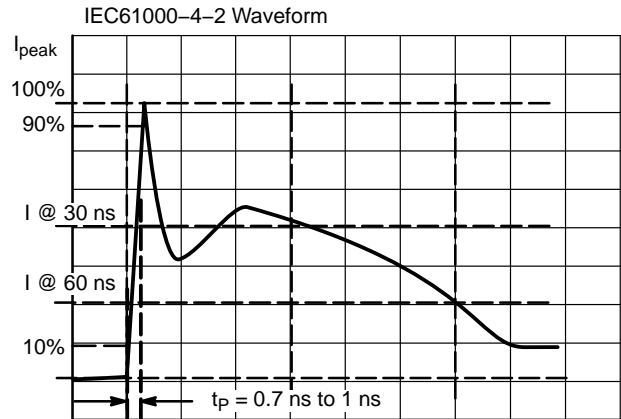

Figure 4. IEC61000-4-2 Spec
1. For test procedure see Figures 4 and 5 and application note AND8307/D.